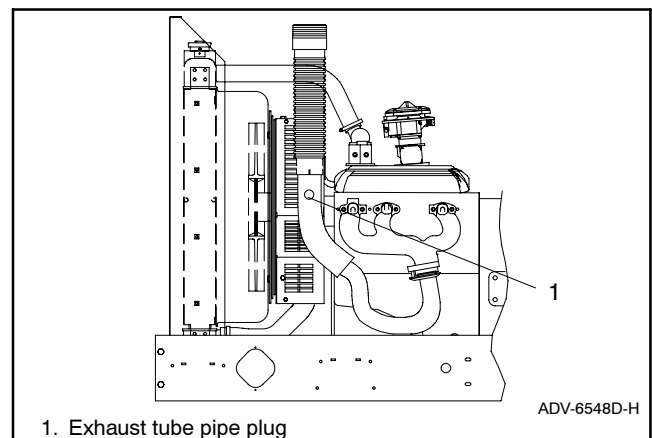

Figure 7-41 Oxygen Sensor Mounting Location, Typical (30 kW model shown)
- a. Remove the oxygen sensor pipe plug from the exhaust pipe. See Figure 7-41 for location.